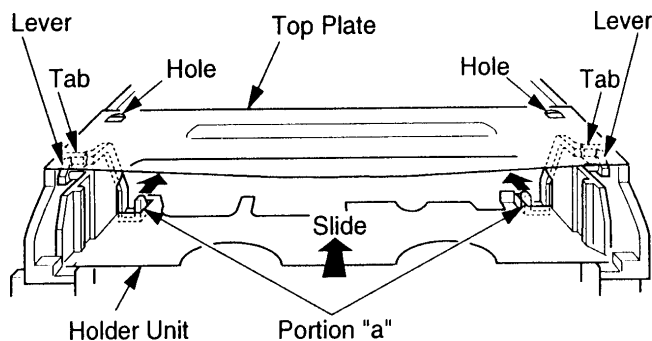

Fig. 12 - Manual Loading/Unloading of the Mechanism
2. When loading the unit without a cassette installed, press section (a) on both sides of the cassette holder so that the lever clears the tab and the hole (Fig. 12).